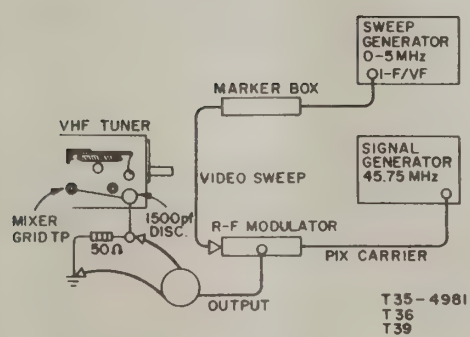

Figure 21 – Chroma Bandpass Alignment
- R-F MODULATOR Connect as shown in Fig. 21
- SIGNAL GENERATOR. Connect as shown in Fig. 21
- SWEEP GENERATOR Connect as shown in Fig. 21
- MARKER BOX. Connect as shown in Fig. 21